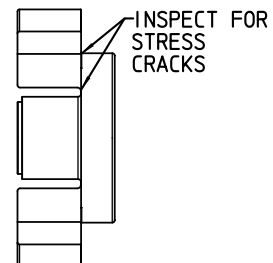

FIGURE 9
3. Carefully inspect rotors visually for worn splines, bearing shoulder wear, and for stress cracks. Replace worn or cracked rotors. Refer to **Figure 9**.